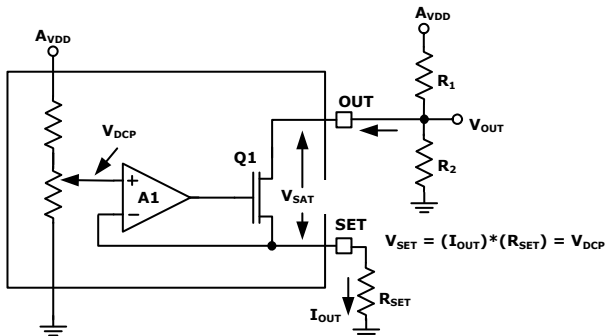

FIGURE 5. CURRENT SINK CIRCUIT
**Electrical Specifications** Test Conditions:  $V_{DD} = 3.3V$ ,  $A_{VDD} = 18V$ ,  $R_{SET} = 5k\Omega$ ,  $R_1 = 10k\Omega$ ,  $R_2 = 10k\Omega$ , (See Figure 5); unless otherwise specified. Typicals are at  $T_A = +25^{\circ}C$ . **Boldface limits apply over the operating temperature range, -40 $^{\circ}C$  to +85 $^{\circ}C$ .**
**Electrical Specifications** Test Conditions:  $V_{DD} = 3.3V$ ,  $A_{VDD} = 18V$ ,  $R_{SET} = 5k\Omega$ ,  $R_1 = 10k\Omega$ ,  $R_2 = 10k\Omega$ , (See Figure 5); unless otherwise specified. Typical values are at  $T_A = +25^\circ C$ . **Boldface limits apply over the operating temperature range,  $-40^\circ C$  to  $+85^\circ C$ .** (Continued)
Figure 5 shows the schematic of the OUT pin current sink. The circuit made up of amplifier A1, transistor Q1, and resistor RSET forms a voltage controlled current source.